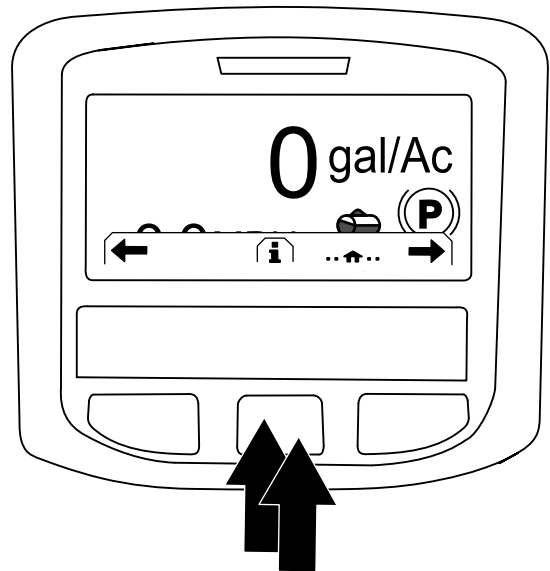

Figure 227
2. At the Home screen, press the center button on the InfoCenter to access the navigation screen (Figure 227).
3. Press the center button on the InfoCenter to access the Main Menu (Figure 227).